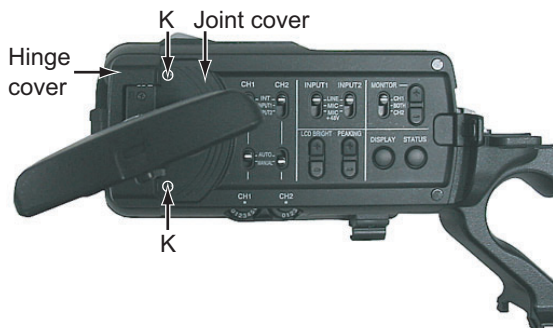

Fig.14
3.4.5 Removing the monitor assembly and AVR board (See Figure 14, 15, 16, 17 and 18)